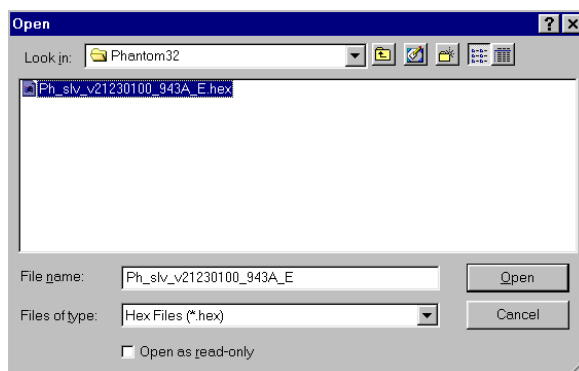

Figure 6-6 The Mask for a Remote computer
4. From the **File** menu, choose **Open**. The **Open** box appears. See Figure 6-6.